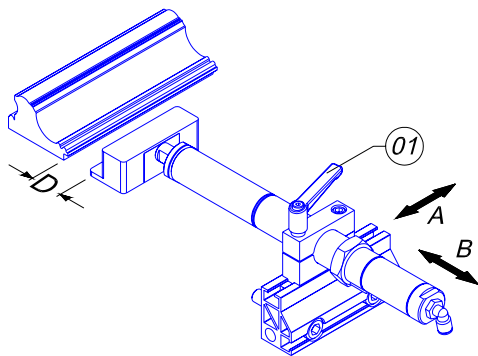

Figure 06
As soon as you choose the profile that you wish to cut, as shown in fig. 06 fit the moulding to be cut onto the table between the fence and the clamping, with the rabbet facing towards you. Make sure to obtain a space of about 3/16" (5mm) between the clamping and the profile, with the clamping air cylinder in the retracted position.
The clamping adjustment is done as shown in fig 06 (01). Loosen the air cylinders so that they can move freely in the direction of arrows "A" and "B", in this way you will be able to obtain a space of about 3/16" (5mm) between the clamping and the profile.